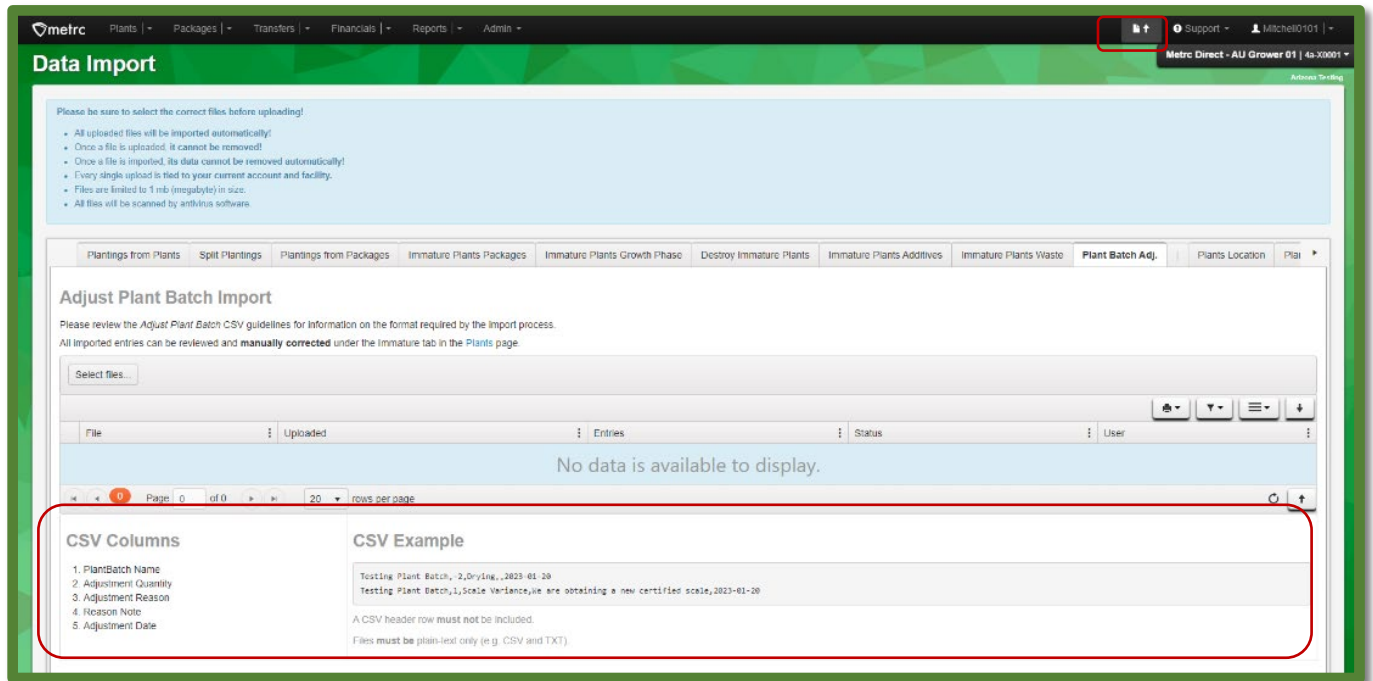

Figure 3: CSV upload
To increase the efficiency of the adjust immature plant batches feature, Metrc built functionality that allows the licensee to adjust multiple batches by uploading a CSV file in the format shown in **Figure 3**.
- Create a new CSV (Comma Delimited) file using the column format listed under the CSV Columns section or create a text file using the format listed in the CSV Example shown in **Figure 3**.